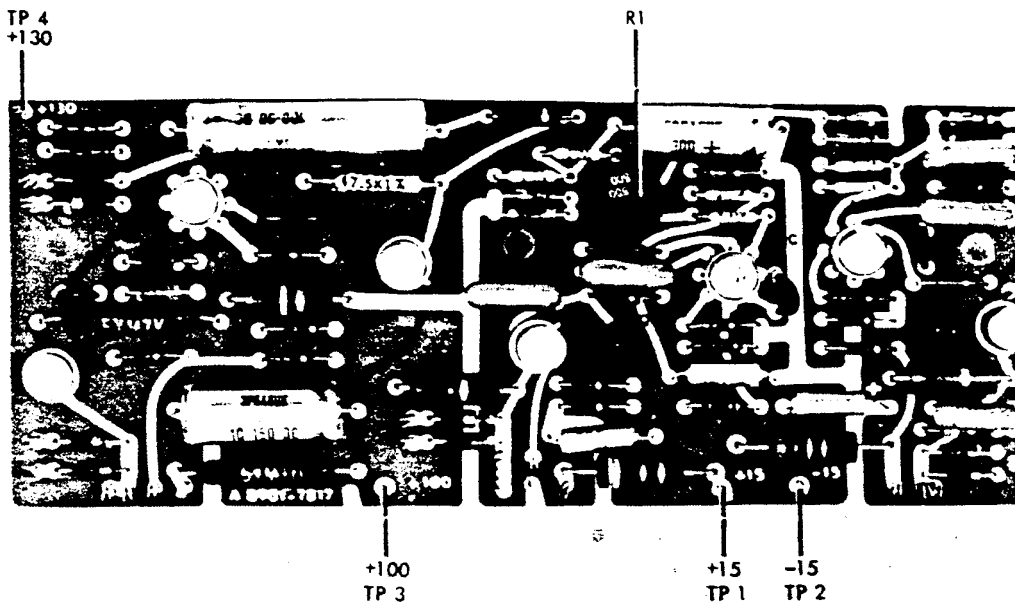

Figure 8. Oscilloscope, low voltage power supply board.
(1) Connect digital voltmeter (A3) to TI TP2 (fig. 8) and chassis ground, using leads supplied with digital voltmeter. Digital voltmeter will indicate between -14.85 and -15.15 volts.